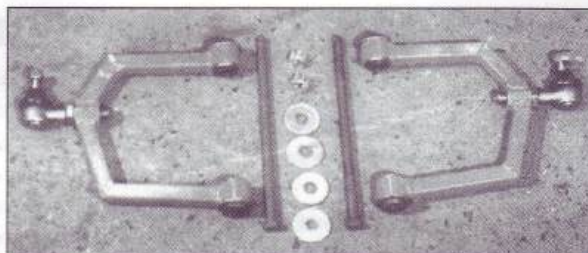

Fig.2a. Upper wishbones fitted with joints & bushes.
1. Start by fitting the bushes and ball joints to the upper and lower wishbones as shown in figs.2a and 2b.